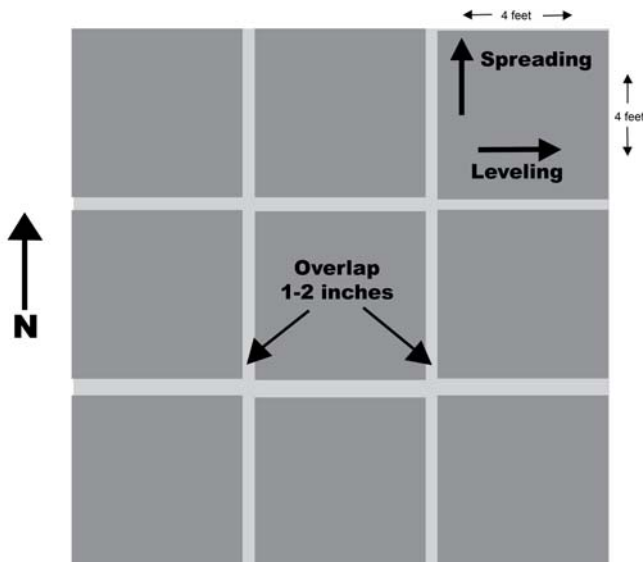

Figure1
5. Without re-wetting the applicator, level the product by going back and forth (east-west direction see figure 1) over the applied seal.